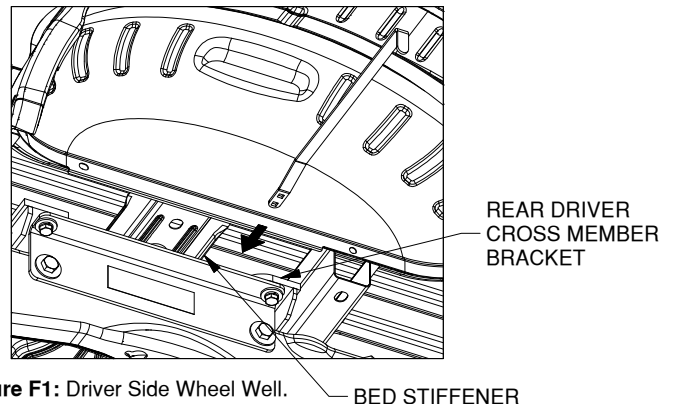

Figure F1: Driver Side Wheel Well.
1. **Position handle.** There is very little room between the bed and the frame. From the outside of the driver side wheel well pass the handle over the frame between the bed stiffener and the rear driver cross member bracket as shown in Figure F1. The handle will have to be pushed toward the cab once the end with the holes is past the frame.